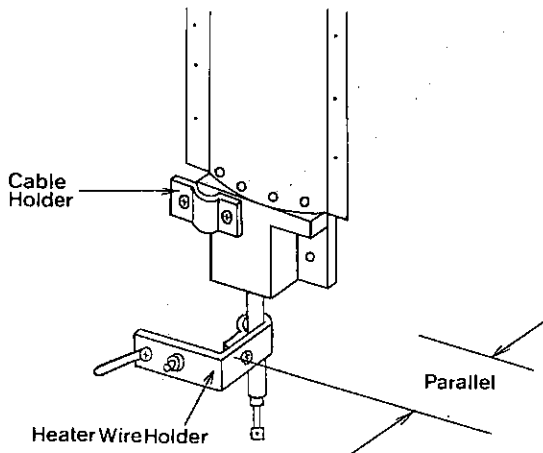
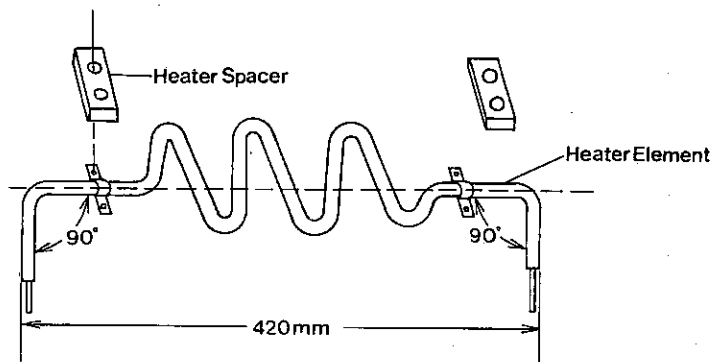

Figure 11. Sheath Heater Replacement
Figure 12. Heater Element
- (1) Make sure that the heater element is shaped well before the installation. (Figure 12.)
- (2) Install the element carefully into the oven cavity without changing its shape.
- (3) Put the heater choke assembly in place and secure it to the cavity wall with the two (2) mounting screws. Then secure it to the cavity bracket with the four (4) mounting screws.
- (4) Secure the heater wire holder to the heater element where the holder is parallel to the cavity wall. (Figure 11.)